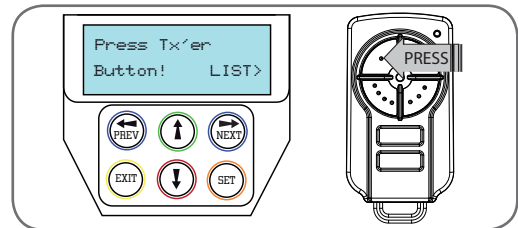

fig 34
2. Press the transmitter button you wish to use to operate the Gate Opener (e.g. button 1) (Fig. 34).